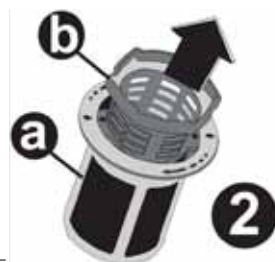

fig. 15
3. Remove the coarse filter from the microfilter (figure 15).